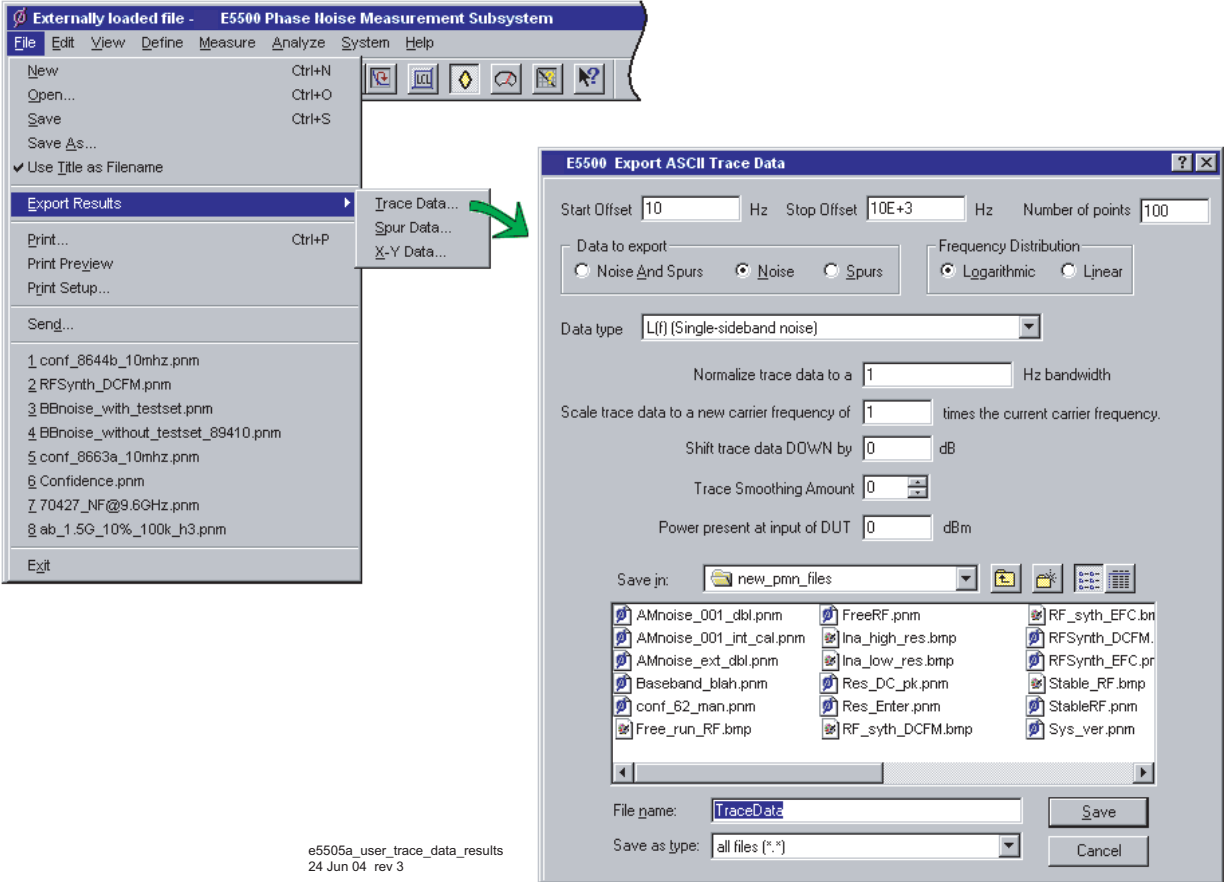

Figure 68 Trace data results
- 1 On the **File** menu, point to **Export Results**, then click on **Trace Data**. See Figure 68 on page 105.